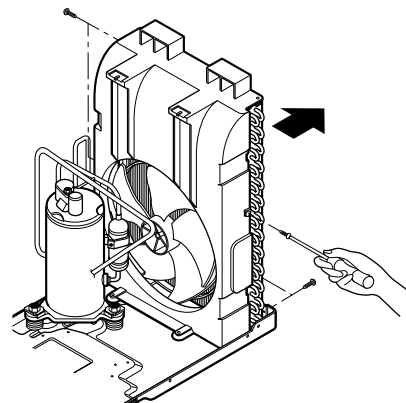

Figure 16
3. Remove the 4 screws which fasten the condenser and shroud. (See Figure 16)
7. Re-install the components by referring to notes. (See Figure 16)